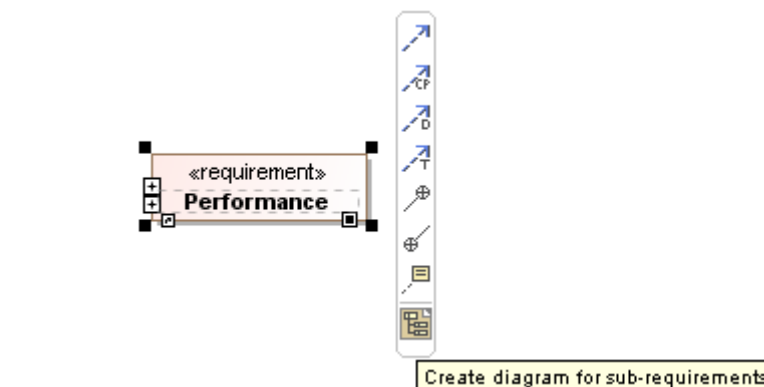

Figure 136 -- Smart Manipulator Buttons on the Requirement Symbol
2. Click the **Create diagram for sub-requirements** button from the smart manipulator (Figure 136).